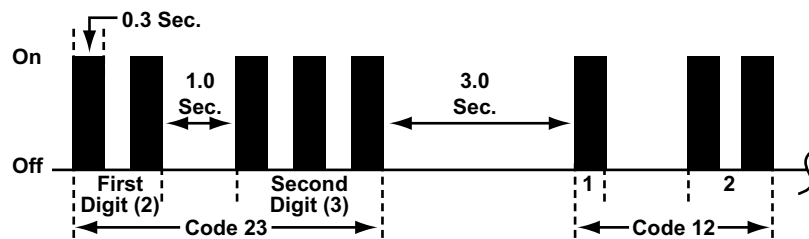

Figure 7-15 Engine Code Type 01
- Type 01 engine codes, see Figure 7-15 and Table 7-1 on page 59